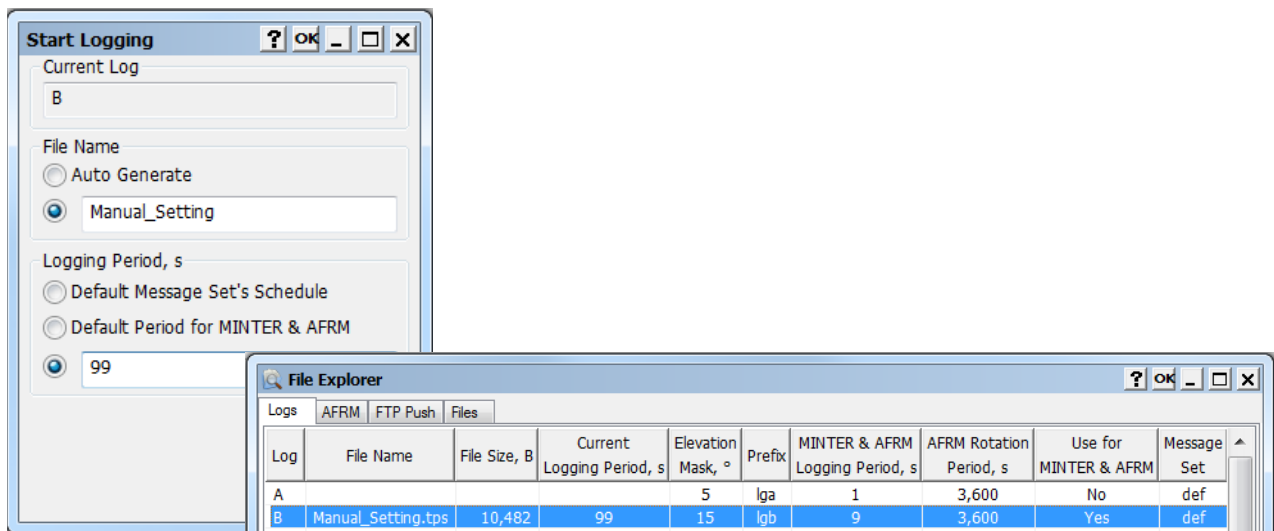

Figure 7-5: Start File Logging With Manual Settings
- Click **OK** to start logging the file using the entered parameters. The current logging file is displaying in the **Logs** tab (Figure 7-5).